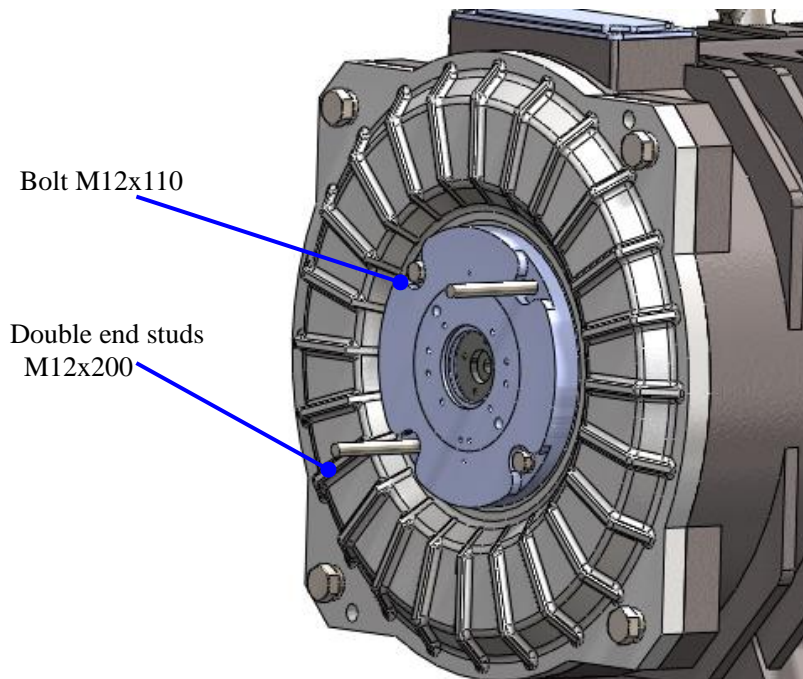

Figure 109: Install studs and secure outside cover
8. Install the wavy gasket next to bearing, then slide the outside cover into the shaft through double end studs M12x200. Use the bolt (smear some Loctite 680 outside) M12x110 (4 pieces) and lock washer12 (4 pieces) to secure the inside cover, back cover, and outside cover together. Disassemble the double end studs M12x200 at same time. See Figures 109 and 110.